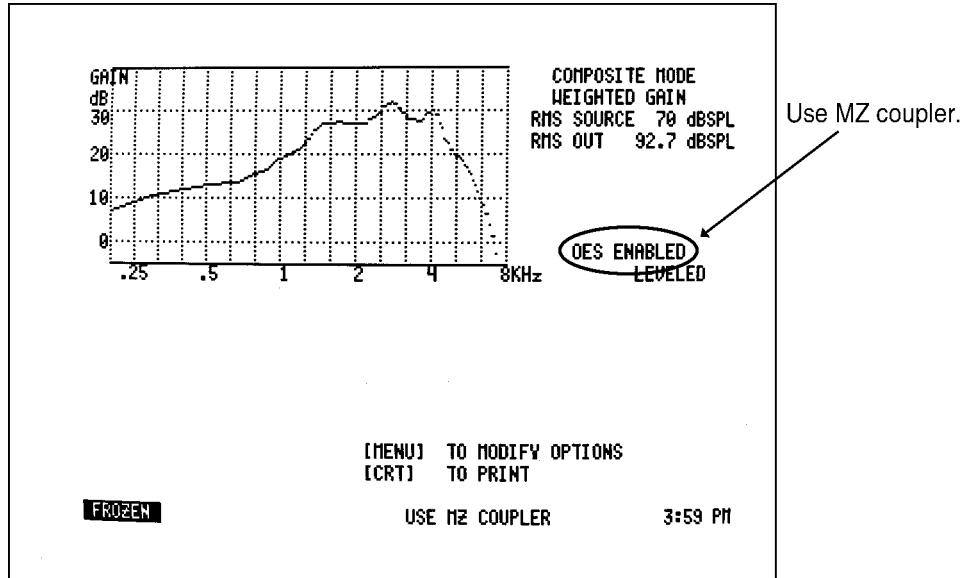

Figure 7.14.2B—OES cisplay
2. Push the [OES] button. A message will appear at the bottom of the screen reminding you that the special couplers are required. See Figure 7.14.2B.